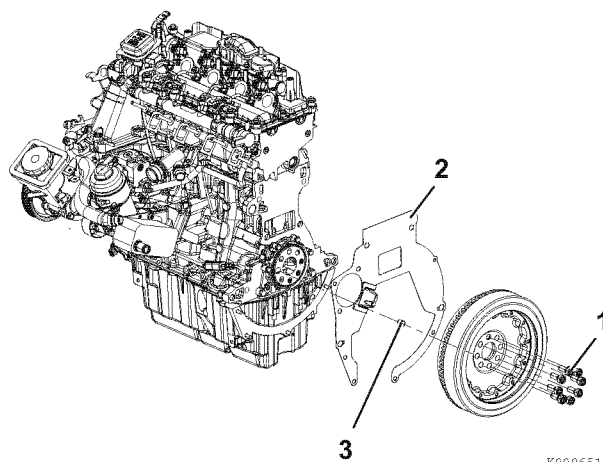

Figure 5-71
1. If removed, install the guide bushing (3, **Figure 5-71**) in the crankshaft.
2. Install torque plate (2, **Figure 5-71**).
4. Apply medium strength thread lock and sealer to the threads of the flywheel bolts (1, **Figure 5-71**). Install bolts and tighten to initial torque specification.